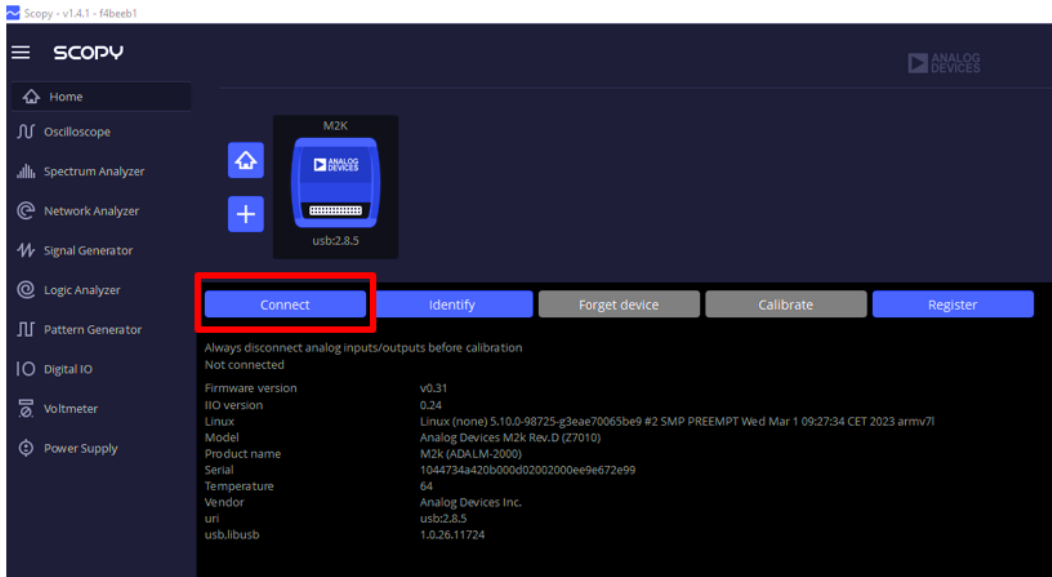
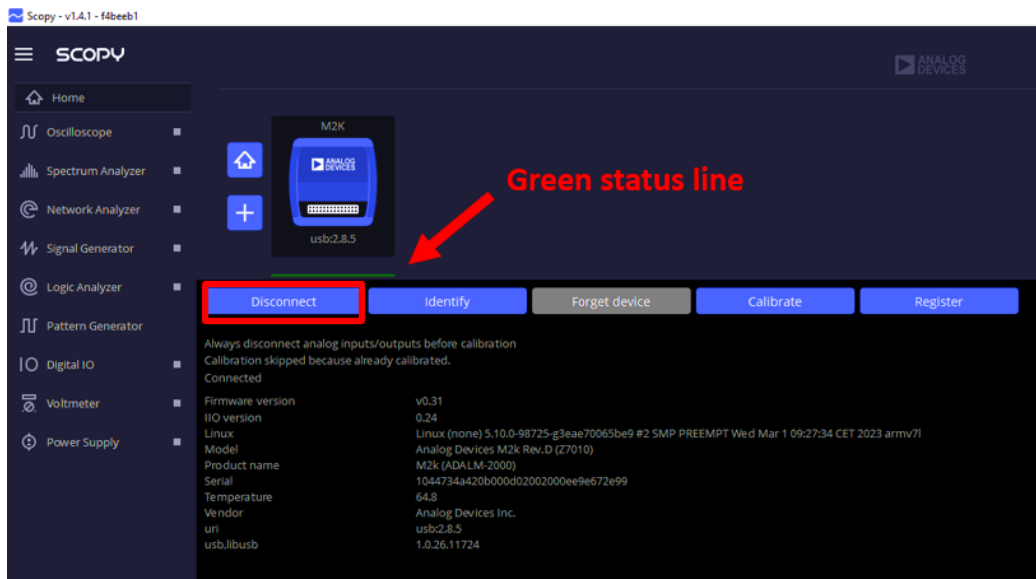

Figure 11. Connecting to ADALM2000
Figure 12. Successful Connection to ADALM2000
- c. To connect to the ADALM2000, click the **Connect** button in the **Information Window** (see Figure 11). If the connection is established, the device has a green status line under it and the user is able to disconnect it from the same **Information Window** as shown in Figure 12.